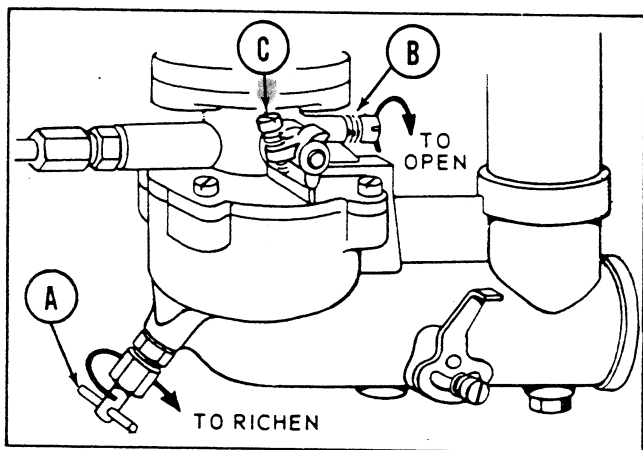

Figure 17. Carburetor adjustments.
1. See figure 17. Turn the needle valve (A) clockwise until it just closes. **CAUTION: VALVE MAY BE DAMAGED BY TURNING IT IN TOO FAR.**
2. Open the needle valve (A) one and one half turns counter-clockwise.
3. Turn the idle valve (B) clockwise until it just closes.
4. Open idle valve (B) one half to three quarter turns.
3. See figure 17. Turn needle valve (A) clockwise until engine misses, (Lean mixture), then turn it out counter-clockwise past the smooth operating point, until the engine runs unevenly (Rich mixture). Now turn needle valve (A) to the mid-point between the rich and lean mixture so the engine runs smoothly.
4. Move the engine speed control lever to the slow position, and set the idle speed adjusting screw (C) so a fast idle is obtained (1200 RPM). Hold the throttle in this idle position and turn the idle valve (B) clockwise (lean) and counter-clockwise (rich) until the engine idles smoothly.
5. Reset the idle speed so the engine idles at 1200 RPM. Push the engine speed control lever forward to the fast position, the engine should accelerate without hesitation or sputtering. If the engine does not accelerate properly, readjust needle valve (A) to a slightly richer mixture.